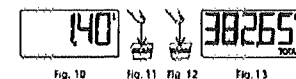

Fig. 10 Fig. 11 Fig. 12 Fig. 13
- When the meter is in normal status (partial meter) (fig. 10), the Total meter (fig. 13) can be shown by pressing the SELECT button (fig. 11) twice in a row.
- It is enough to press the SELECT button again (fig. 12) to return to the partial meter mode (fig. 10).